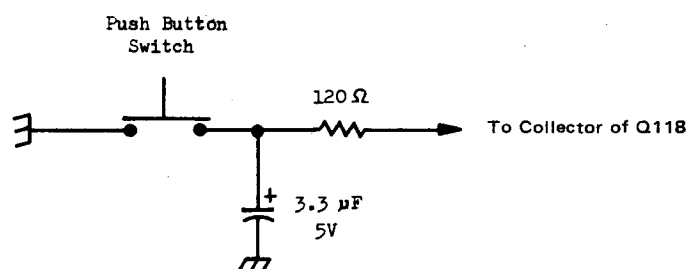

Fig. 2 Stepper Circuit
e. Remove transistor Q118 and connect the Stepper Circuit shown in Fig. 2 between the collector pin of Q118 socket and ground. This allows the gain staircase to be stepped manually.